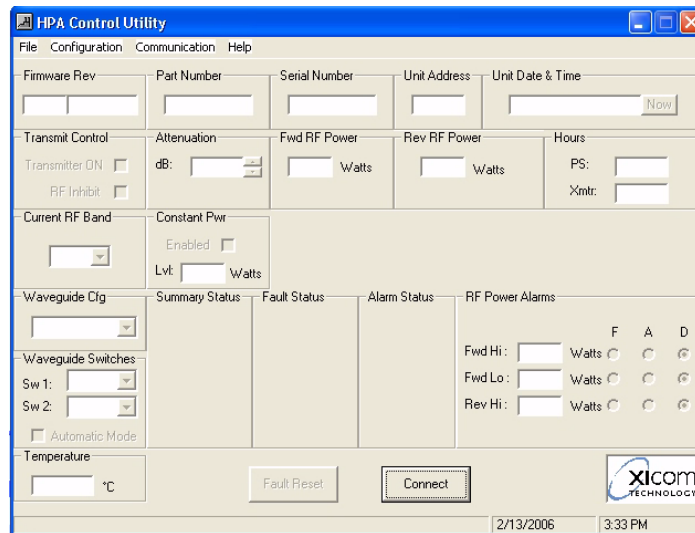
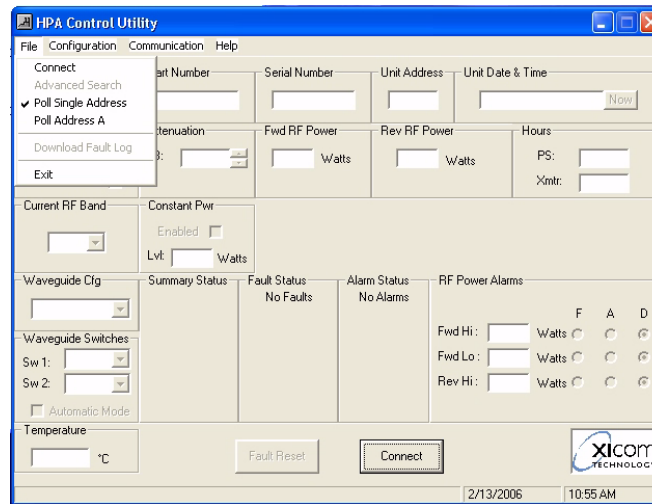

Figure 15, Primary User Interface - Disconnected
Figure 16, Primary User Interface – File Menu when disconnected
1. Refer to Figure 15 and Figure 16. If this is the initial time running the program, select “Connect” in the lower center, or “File -> Connect” to scan the first 5 addresses used for amplifiers. All baud rates will be tested for these amplifiers. If you want to test ALL possible RS485 addresses, select “File -> Advanced Search” and all possible addresses and baud rates will be tested. This search will take much longer than the normal “Connect” search as all possible baud rate, parity, and data bit combinations are queried.